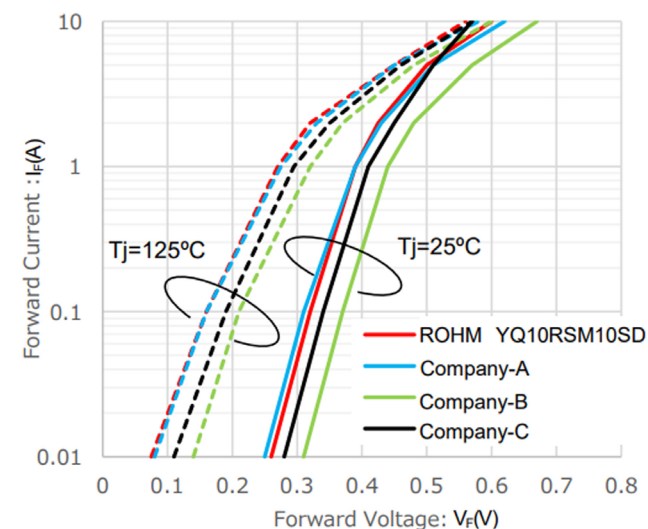

Figure 5: Forward current vs forward voltage for the ROHM YQ10RSM10SD compared to three other equivalent SBD solutions.
Figure 5 shows that the ROHM YQ10RSM10SD has one of the lowest V_F characteristics, nearly equivalent to the Company A product, which implies that these two SBDs have the lowest conduction loss. In contrast, the V_F of Companies B and C products are higher by approximately 10-20%, leading to higher conduction losses than the ROHM YQ10RSM10SD and Company A.
- Figure 5; 6; 7; 8; 9 & 11: https://fscdn.rohm.com/en/products/databook/applnote/discrete/diodes/yq_sbd_automotive_an-e.pdf